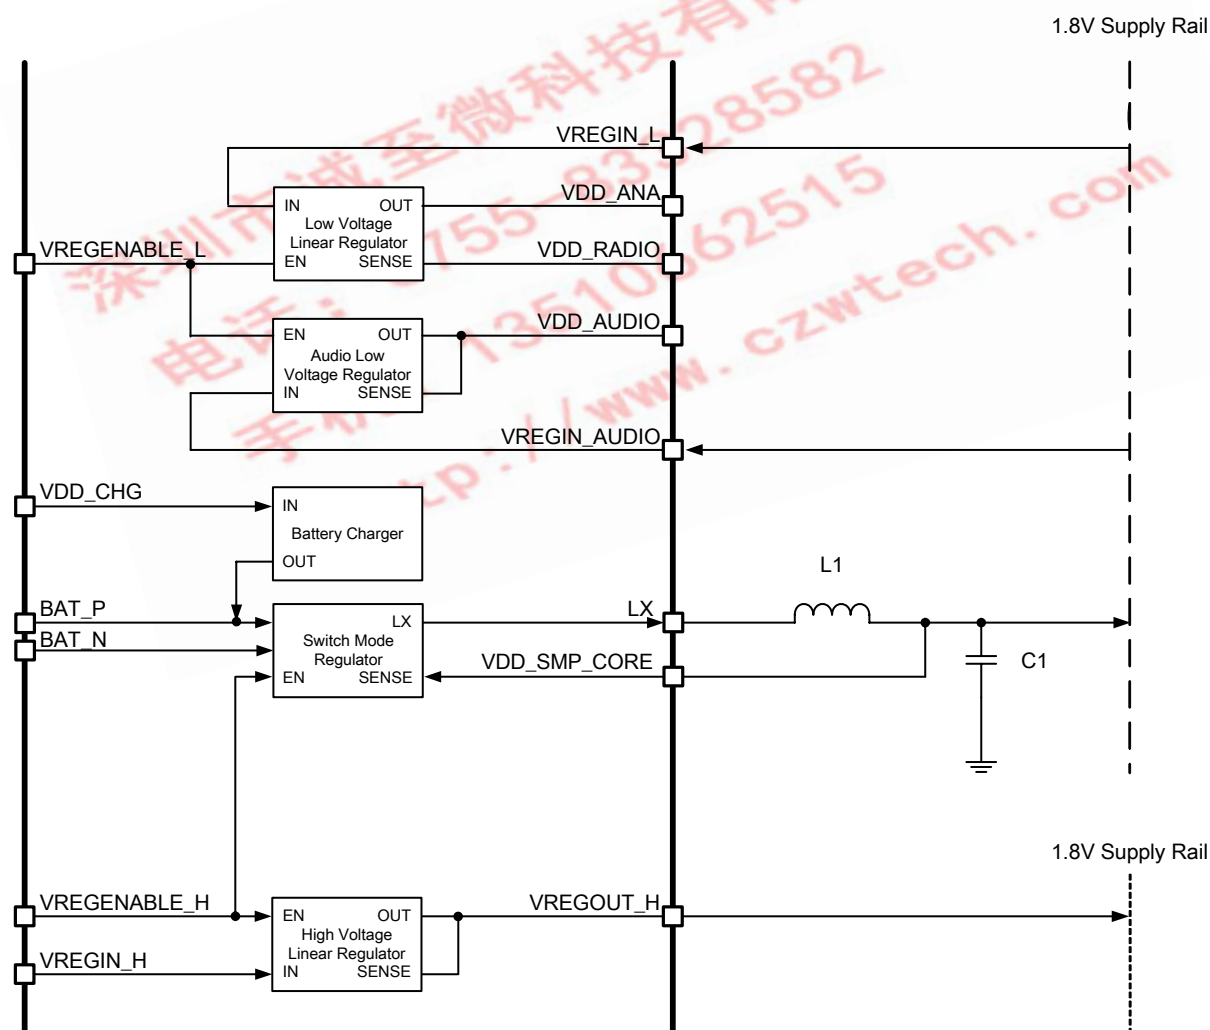

Figure 11.1: Voltage Regulator Configuration
- A high-voltage rail running a high-voltage regulator and the low-voltage regulators in series, as shown in Figure 11.1.